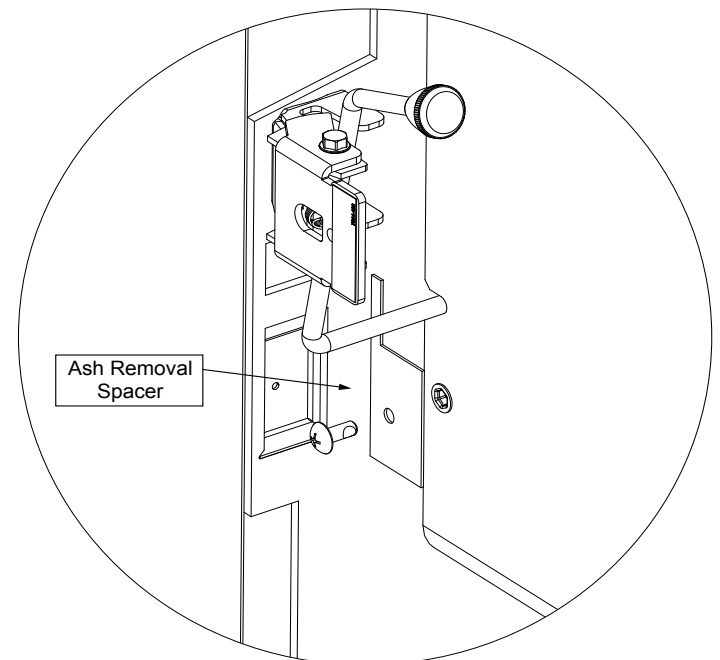

Figure 17.4
3. Install ARS Spacer on left hand side with one bolt using Phillips head screwdriver (**Figure 17.4**).
2. Install ARS Spacer on left hand side with one bolt using Phillips head screwdriver (Figure 17.4 on page 17).